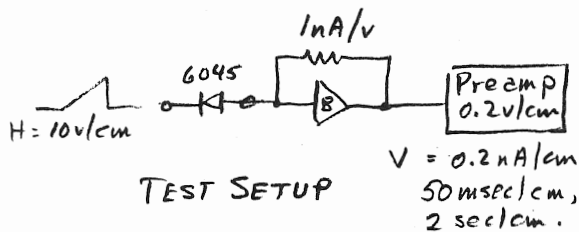

Fig. 3. Type 6045 diode.
- (3) Note that the display starts with a spike of 1.5 to 3 cm (upper trace of Fig. 3 is at sensitivity of 0.2 nA/cm. Spike at 0.5 nA/cm should be only 40% as high). The 50 msec/cm sweep rate is too fast for a high-capacitance, low leakage diode, and the trace indicates leakage plus capacitive displacement current. Step sweep rates to slower and slower sweeps until stepping the sweep time/cm has negligible effect on the vertical amplitude indication. For a typical 6045 (5 to 8 pf at 0v), it will be necessary to set sweep time/cm to 2 sec/cm to obtain a vertical display of leakage alone. A good rule of thumb is to set the sweep at least 10X slower than the range which dropped the amplitude by about 1 cm.
Figure 3 (lower trace) was taken at 2 sec/cm, preamp at 0.2 v/cm for 0.2 nA/cm. The diode is shown to have a leakage of 0.8 na at 90 v bias ( $1.1 \times 10^5$  Meg $\Omega$  equivalent).
In Fig. 3, taken at a sensitivity of 0.2 nA/cm, the sweep was changed from 2sec/cm to 50 msec/cm, for a capacitance sensitivity of